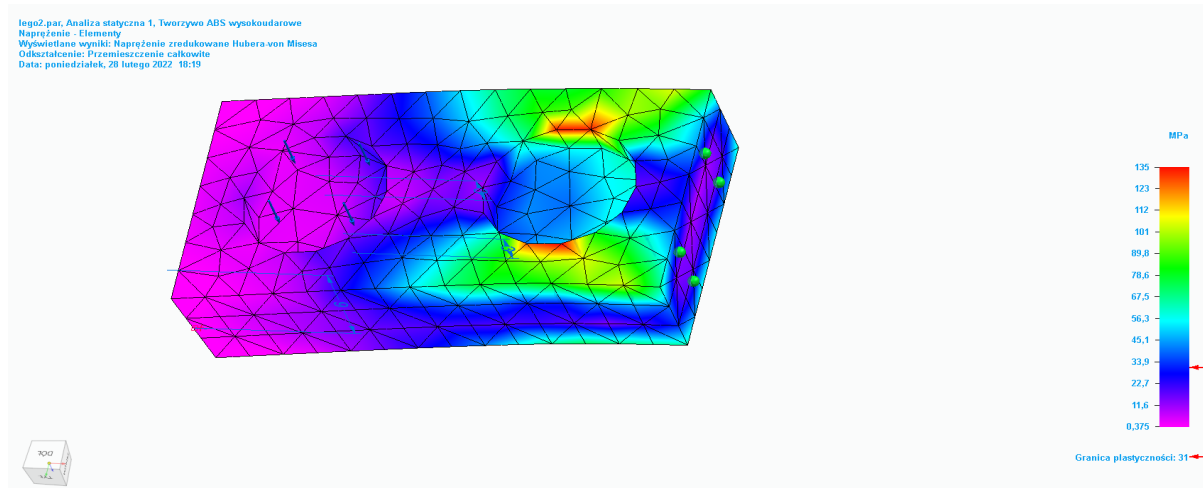

Figure 2: Side view of Lego simulation.
In order to analyze the scheme simulation, we have to know the elastic limit value (31). For example, the side connected to the wall is blue and green. It means this part of Lego is almost cracked. Figure 2 shows there are some parts of it that are broken around the hole.